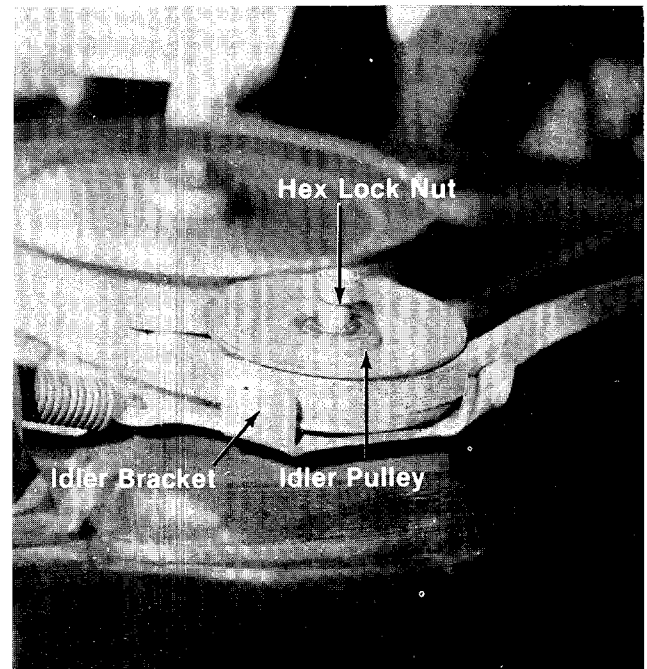

FIGURE 38.
6. Remove the hex lock nut from the idler pulley, located on the left hand side of the deck. A 9/16" wrench is required. See figure 38.